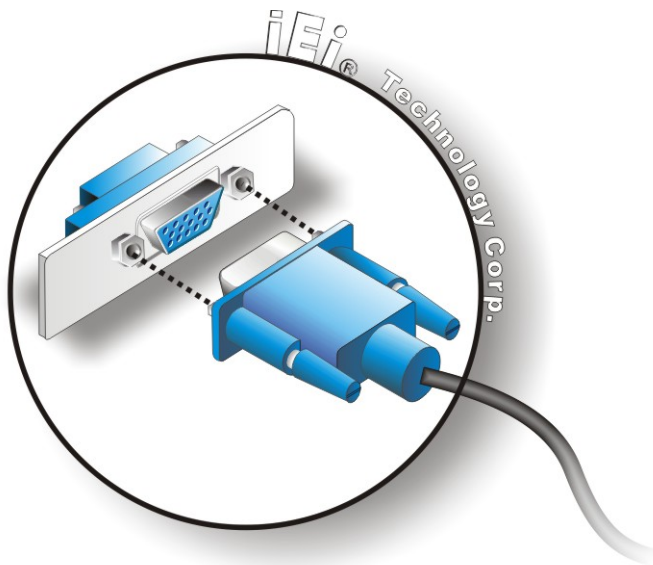

Figure 3-27: VGA Connector
- Step 3:** **Insert the VGA connector.** Once the connectors are properly aligned with the insert the male connector from the VGA screen into the female connector on the AFL2-15A-H61. See **Figure 3-27**.